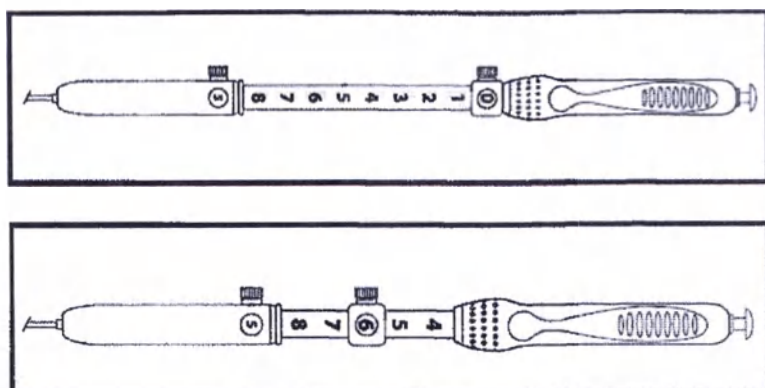

Fig. 2
6. While maintaining position of the scope, set the needle extension to the desired length by loosening the thumbscrew on the safety ring, and advancing it until the desired reference mark for needle advancement appears in the window of the safety ring (Fig. 2). Tighten the thumbscrew to lock the safety ring in place. **Note:** The number in the safety lock ring window indicates the extension of the needle in centimeters. **Caution:** During needle adjustment or extension, ensure the device has been attached to the accessory channel of the scope. Failure to attach the device prior to needle adjustment or extension may result in damage to the scope.